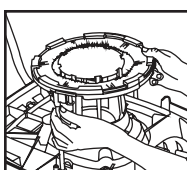

FIGURE 21
28. Align the brush tabs with the opening of the locking unit on the rods. Snap the brush tabs into the locking unit on the rods. Brush is now locked in place. **FIGURE 21.**